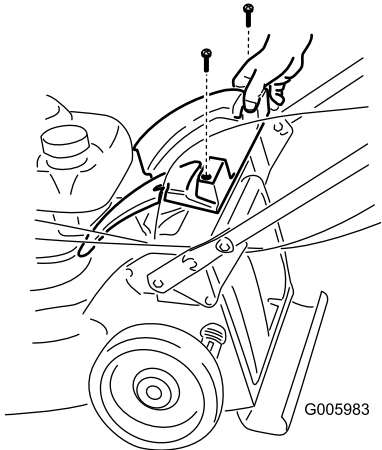

Figure 3
1. Remove the 2 screws that hold the back cover in place and remove the back cover (Figure 3).